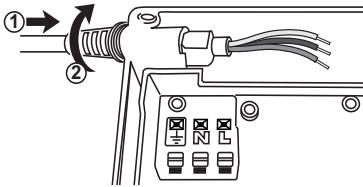

Fig. 5 Inserting the new line cord into the terminal box
1. Insert the new line cord end with wires through the opening in the side of the terminal box. Push the cord end through the opening with the flat side up. See fig. 5.
2. To lock the cord end in place, twist the end of the cord a half turn so that the flat side of the cord end is at the bottom. See fig. 5.